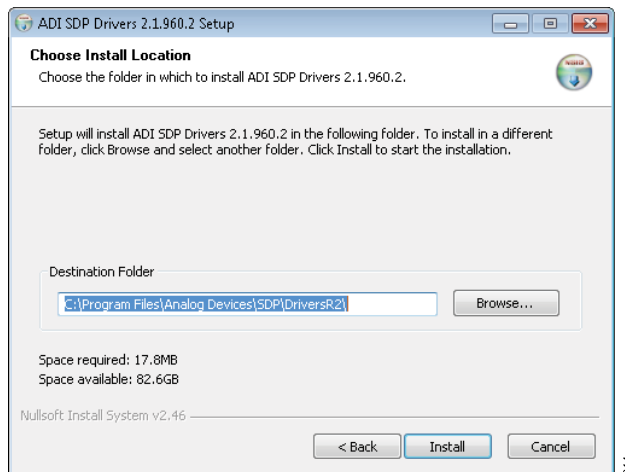

Figure 14. Choose Install Location Window
3. When the **Choose Install Location** window appears (see Figure 14), click **Install**. To select a different destination folder, click **Browse**, select a destination, then click **Install**.